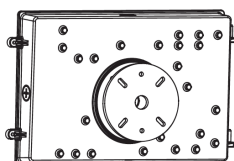

Fig. 2.4
4. Peel and stick the foam pad to the back of the mounting plate. (Fig. 2.4)